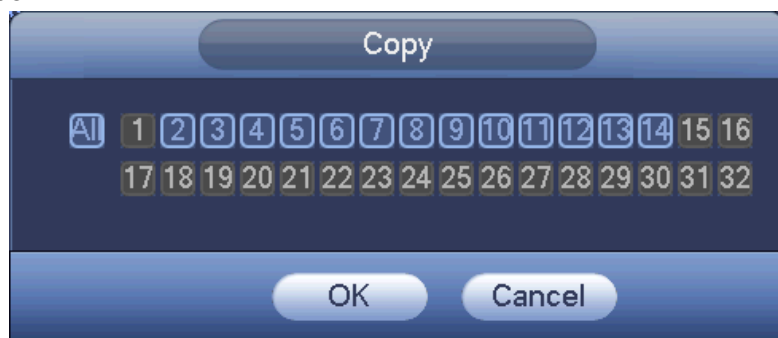

Figure 3-65
- Copy: After you complete the setup, you can click Copy button to copy current setup to other channel(s). You can see an interface is shown as in Figure 3-65. You can see current channel number is grey. Please check the number to select the channel or you can check the box ALL. Please click the OK button in Figure 3-65 and Figure 3-59 respectively to complete the setup. Please note, once you check the All box, you set same encode setup for all channels. Audio/video enable box, overlay button and the copy button is shield.
Copy function allows you to copy one channel setup to another. After setting in channel 1, click Copy button, you can go to interface Figure 3-65. You can see current channel name is grey such as channel 1. Now you can select the channel you want to paste such as channel 5/6/7. If you want to save current setup of channel 1 to all channels, you can click the first box "ALL". Click the OK button to save current
copy setup. Click the OK button in the Encode interface, the copy function succeeded. Please note, if you select ALL in Figure 3-65, the record setup of all channels are the same and the Copy button becomes hidden.